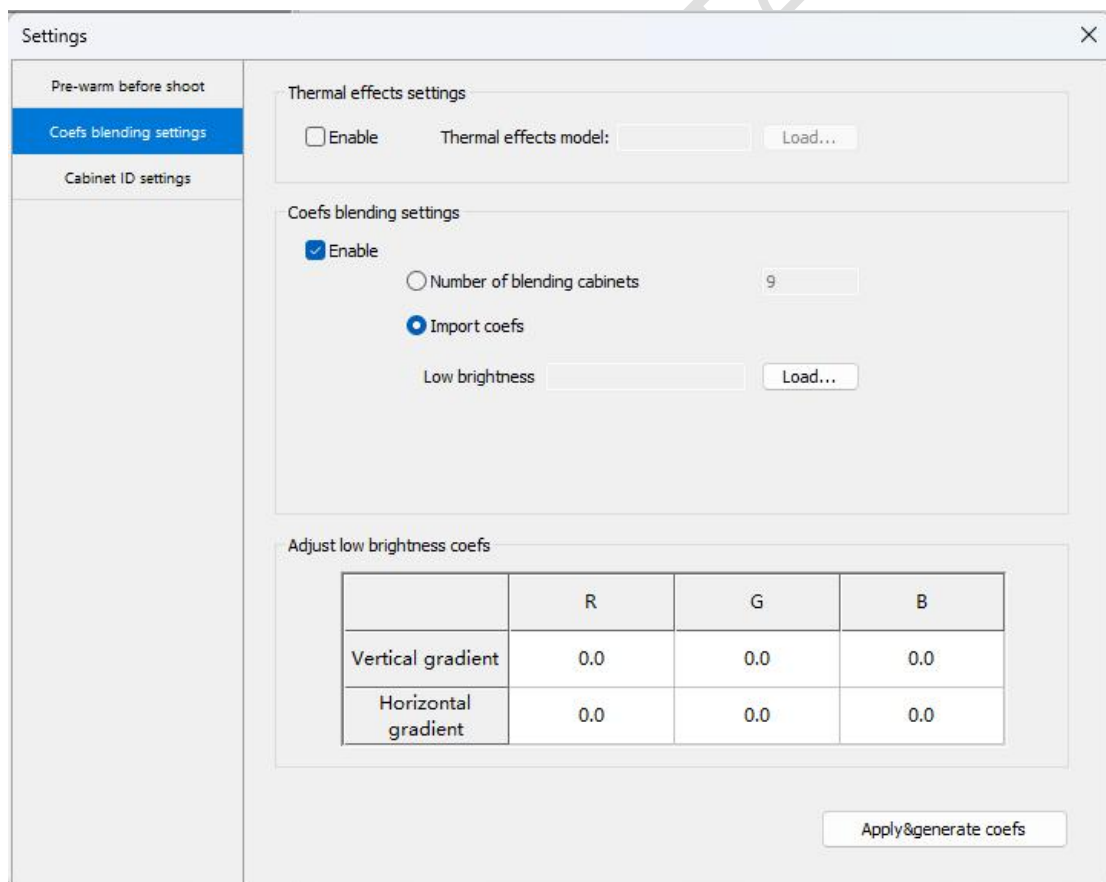

Fig.3-105 Coefficient blending settings in low brightness
- Low brightness calibration: Select **Coefs blending settings** to access the tab. See Figure 3-105.